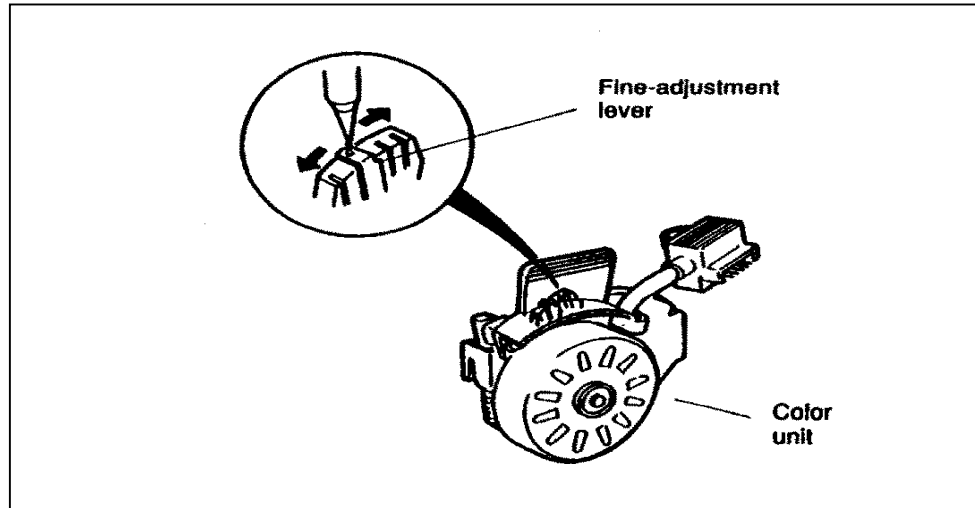

Figure A-5. Adjusting to correct color mixing
9. Check that the fine adjustment lever is set to the middle position. {See Figure A-5}.